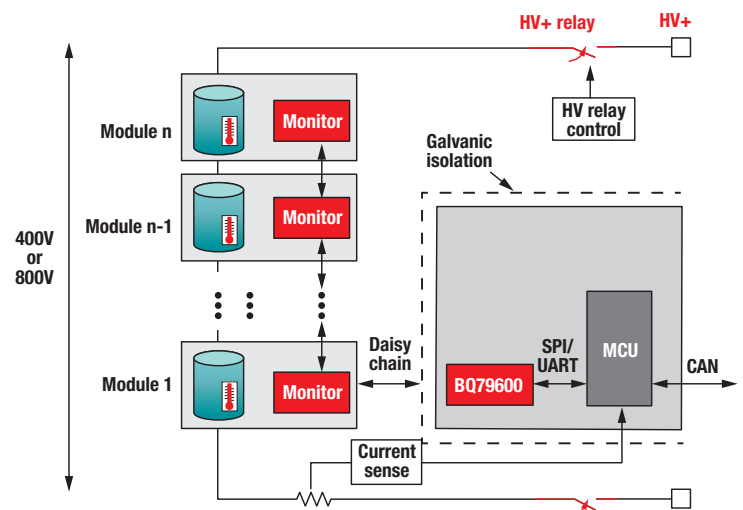
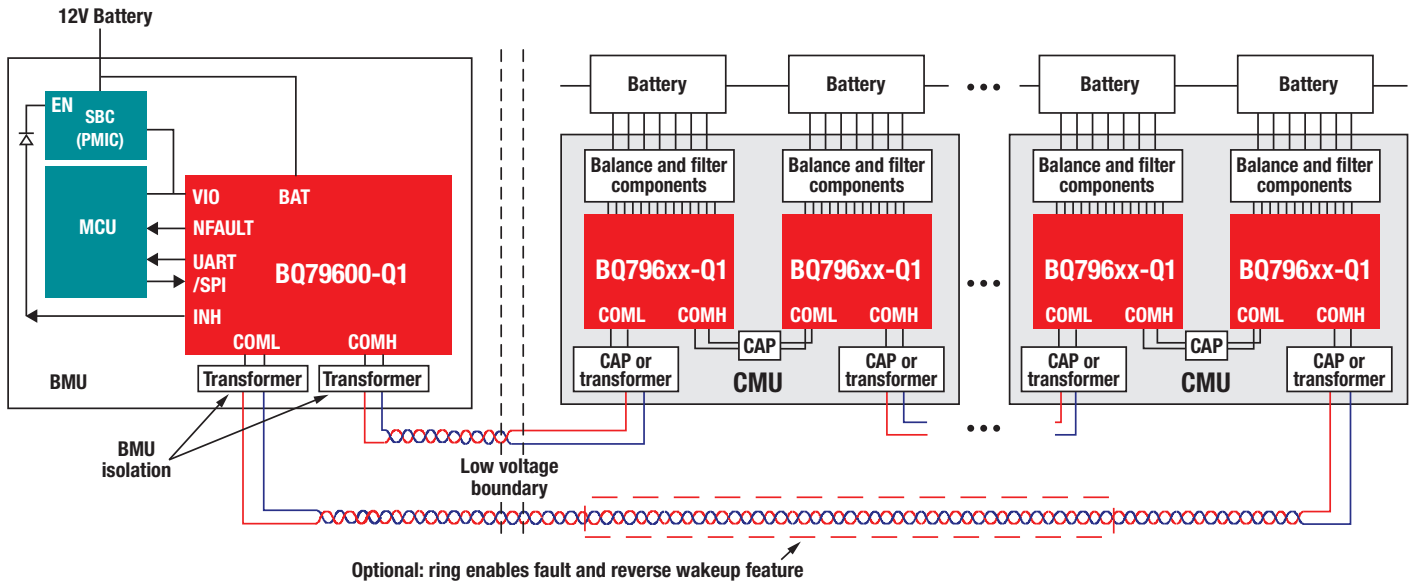
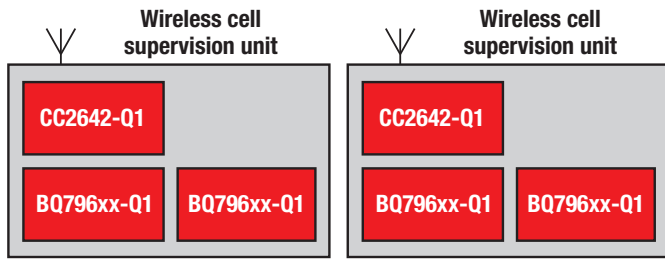

Figure 1. Distributed BMS example.
Figure 2. Wired BMS example.
Figure 3. Wireless BMS example.
In a wired BMS solution, connecting these monitors in a daisy chain with twisted-pair cabling enables the propagation of data acquired for each module of battery cells. The difference between a wired and wireless BMS solution is that the latter uses a wireless communications interface rather than daisy-chain cabling. **Figure 1** displays a typical distributed battery pack system for 400-V to 800-V EVs.
In Figure 1, there is a subsystem containing the host MCU, which interfaces with the control unit of the vehicle through a Controller Area Network bus. Then the MCU processor drives the battery monitor devices connected out to the battery modules to sense voltage and temperature. Depending on how many channels the battery monitors support, there can be any number of devices stacked to support high-voltage packs, which all need to communicate back to the host MCU quickly. Other common aspects of the system requiring monitoring and communications include high-voltage relay controls to ensure safe disconnection of the high voltage when the vehicle is not in use, and current sensing to calculate the state of charge and state of health of the battery pack.
In **Figure 2**, the wired solution displays a battery management or monitor unit (BMU) board on the left, which holds the host MCU and BQ79600-Q1 communications bridge device. This BMU acts as an interface between the MCU and other BQ796xx monitoring devices on the cell monitoring unit (CMU), which connects to the actual battery cells. These CMUs are interconnected through a twisted-pair daisy-chain cable on both the high and low sides of each battery monitor device, and there is an optional ring cable that provides the ability to transmit in either direction in the event of a cable break. The wired solution does not require isolation components on either side of the daisy-chain cabling to ensure robust communication in noisy environments that can withstand strict automotive electromagnetic interference (EMI) and electromagnetic compatibility (EMC) limits.
**Figure 3** uses a more simplified representation of a CMU than Figure 1, but adds a wireless receiver node to show that the CMU has an additional device to transmit cell data wirelessly back to the host. This enables the two CMUs shown in Figure 2 to be naturally isolated from one another.